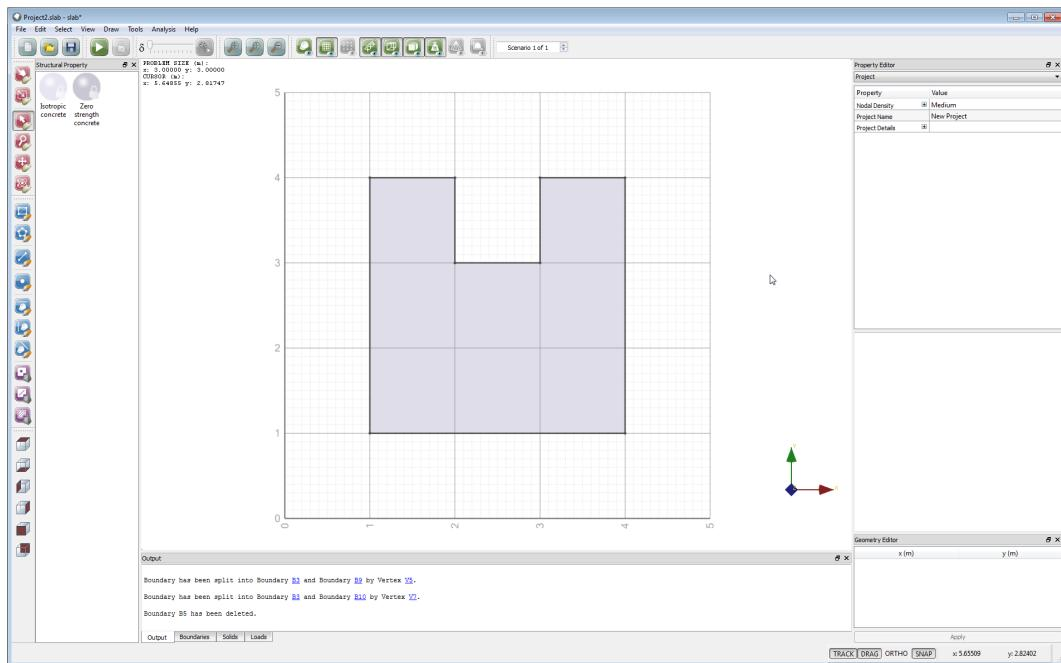

Figure 3.4: Remove a section of the slab, also using the ‘Draw Rectangle’ functionality.
- ▷ Press DELETE on the keyboard (alternatively, click the icon in the top toolbar). The small square will now be removed from the problem as shown in Figure 3.4.